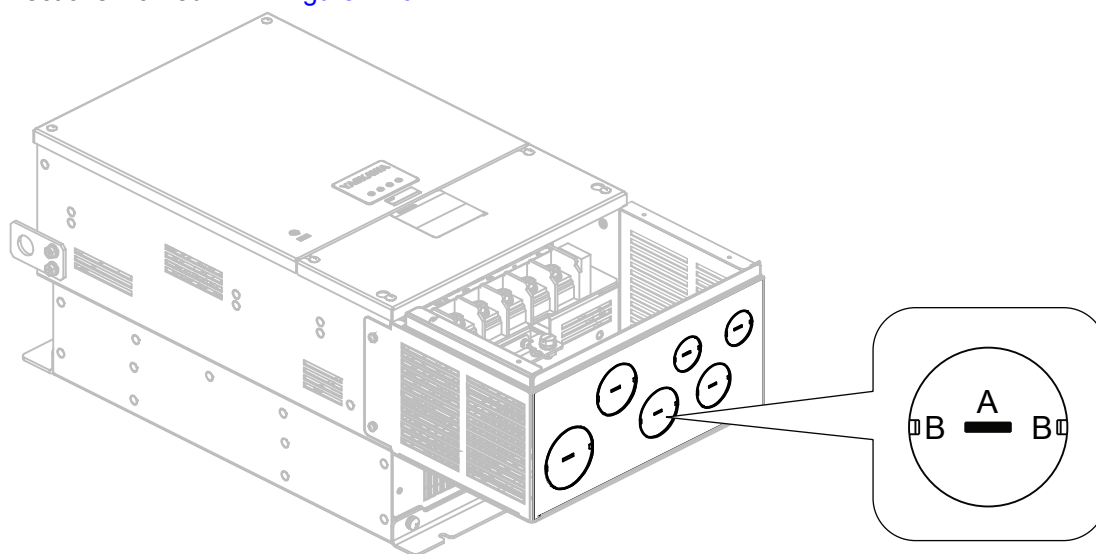

Figure 2.10 Remove Conduit Knockouts
7. Remove the necessary conduit knockouts. To remove a conduit knockout, insert the tip of a straight-edge screwdriver into rectangular hole “A” in Figure 2.10. Move the screwdriver up and down to break the metal connections marked “B” in Figure 2.10.